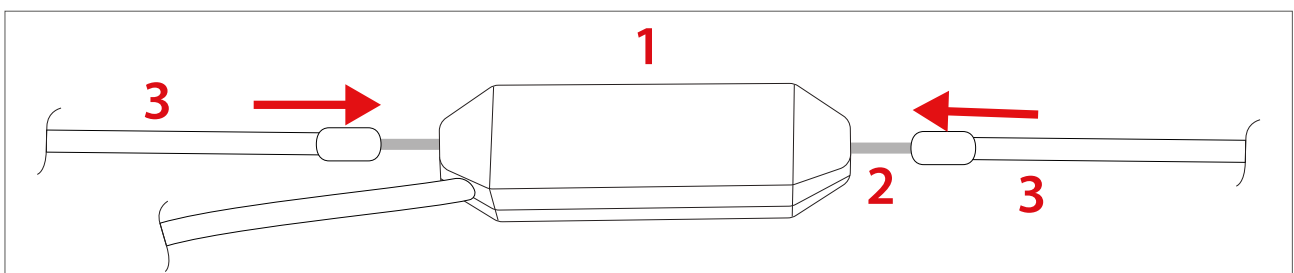

Figure 4.50 Gear sensor assembly
1. Pass gear cable [2] through Gear sensor [1] (Fig. 4.50)
2. Insert both sides of the bowden cable [3] into the gear sensor [1] (Fig. 4.50)